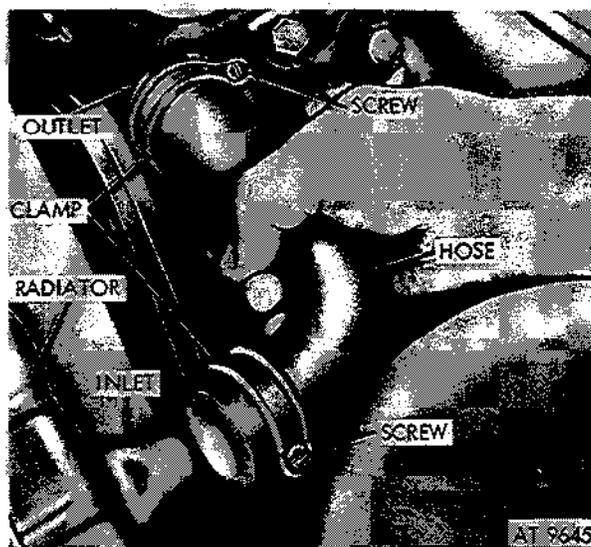

Figure 2-132. Remove upper radiator hose.
(1) Open drain cock and drain radiator (fig. 2-134). Loosen clamps and pull hose from inlet of radiator and from outlet of cylinder head (fig. 2-132).
(2) Loosen screw in radiator hose clamp and pull inlet hose from radiator (fig. 2-132).
(2) Remove radiator upper hose (fig. 2-132).